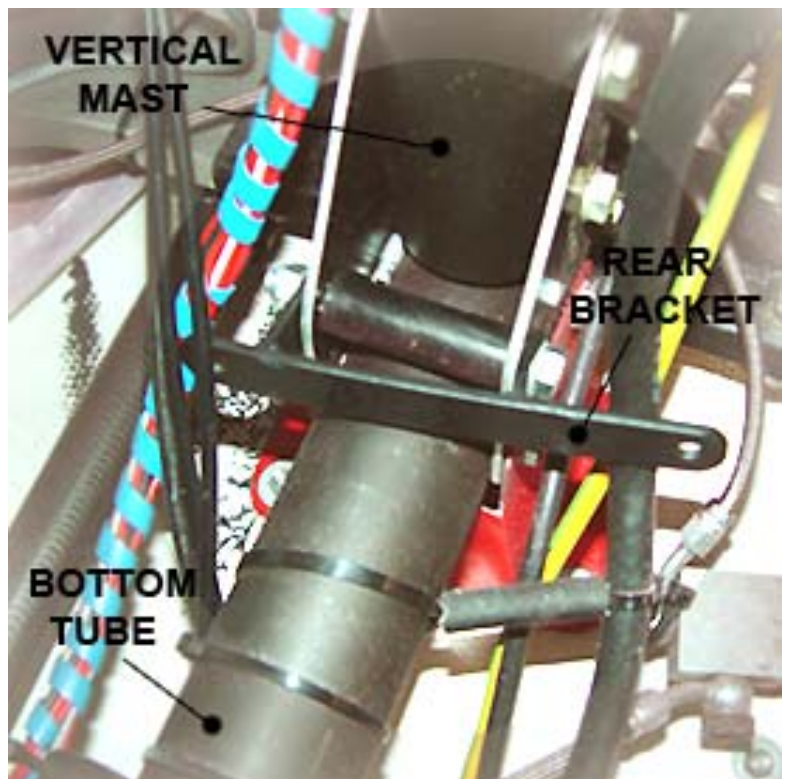

Figure 3-4
- 3.3 Mount the Rear Bracket on the existing Trike Bracket, which connects the bottom base tube and vertical mast tube (Figure 3-4).